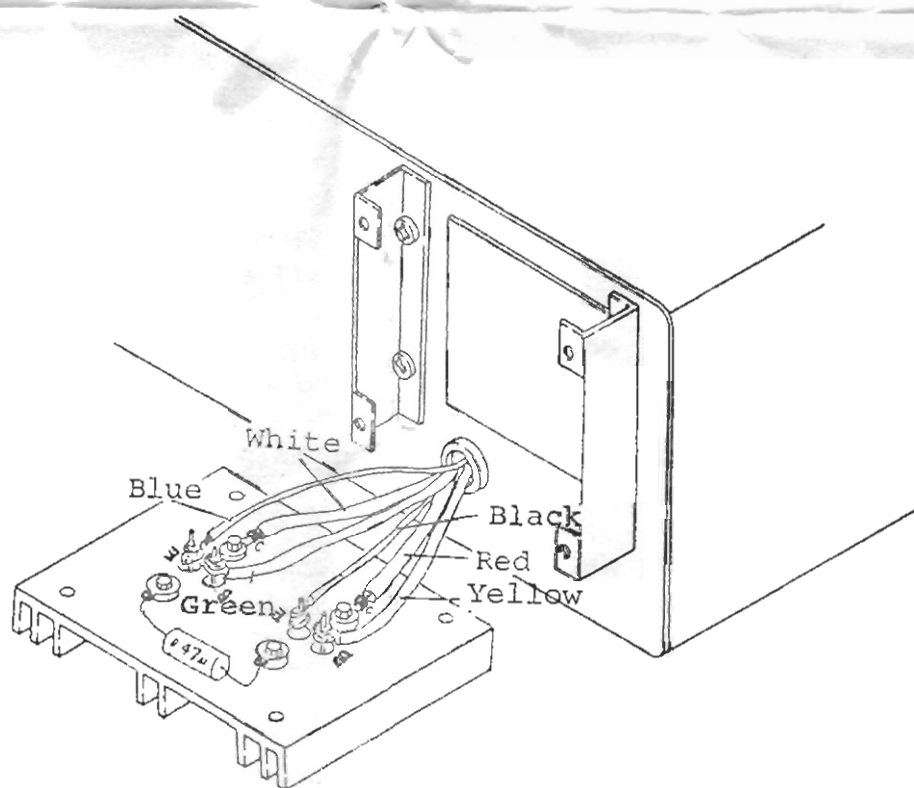

Figure 2
- 4) Connect the wires coming from the back panel to each transistor as shown in Figure 2. Make sure each wire is soldered well.